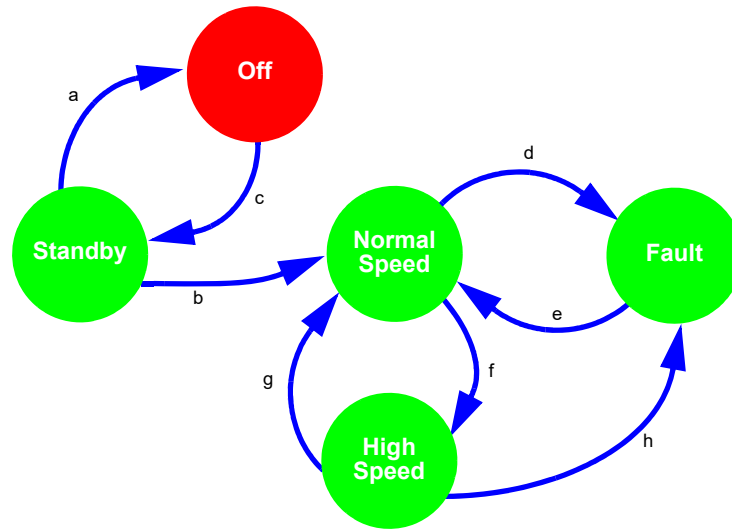
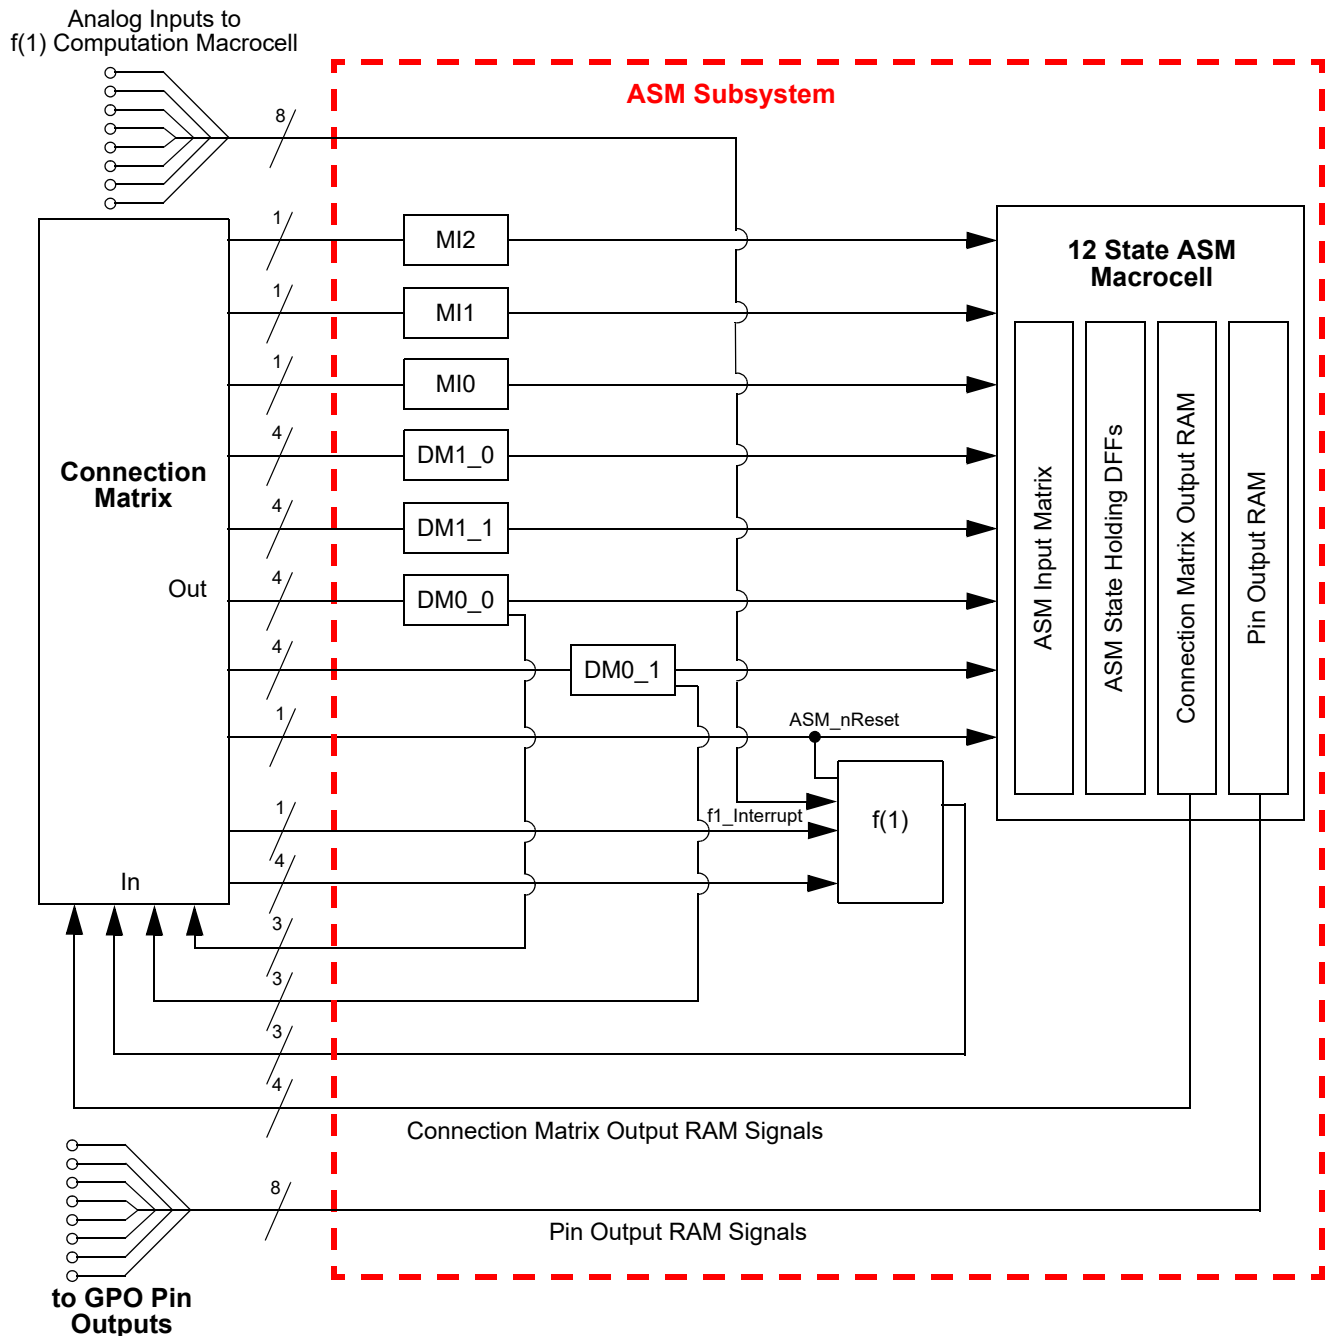

Figure 90: Asynchronous State Machine State Transitions
Figure 91: Connection Matrix to ASM Subsystem
The Asynchronous State Machine (ASM) Subsystem is designed to allow the user to create state machines with between 2 to 12 states. The user has flexibility to define the available states, the available state transitions, and the input signals (a, b, c ...) that will cause transitions from one state to another state, as shown in Figure 90.
- Dynamic Memory (DM) Macrocells – Section 16.
- f(1) Computation Macrocell – Section 17.
- Matrix Interface (MI) Macrocells Section 18.
The ASM Subsystem has a total of 25 digital input signal lines, as shown in Figure 91, which all come from the Connection Matrix outputs. Of these 25 digital input signals, 3 are user selectable inputs going directly from the Connection Matrix to the three Matrix Interface (MI) macrocells. There are a total of 16 input signals that go to the DMx_x macrocell, four per macrocell. There is 1 ASM_nReset input that is for driving a state transition in both the ASM macrocell and the f(1) Computation Macrocell to an Initial/Reset state. It is possible to use one macrocell only (MI or DM) for state to state transitions. There are 4 digital input signals coming from the Connection Matrix to the f(1) Computation Macrocell. There is also 1 dedicated Interrupt input signal to the f(1) Computation Macrocell that will halt any active operations and transfer control back to the ASM macrocell.
The ASM Subsystem has a total of 21 digital output signal lines, as shown in Figure 91. There are a total of 4 output signals which go to the Connections Matrix inputs, and from there can be routed to other internal macrocells or pins. The 4 outputs are user defined for each of the possible 12 states. There are a total of 8 output signals which go directly to the 8 GPOs. The 8 outputs are user defined for each of the possible 12 states. Each of the three macrocells, DM0_0, DM0_1 and f(1) have three output signals that go to the Connection Matrix.
The GPAK Designer development tools support user designs for the ASM Subsystem at both the physical level and logic level. Figure 90 is a representation of the user design at the logical level, and Figure 91 shows the physical resources inside the various macrocells in the ASM Subsystem. To best utilize this subsystem, the user must develop a logical representation of their desired state machine, as well as a physical mapping of the input and outputs required for the desired functionality.